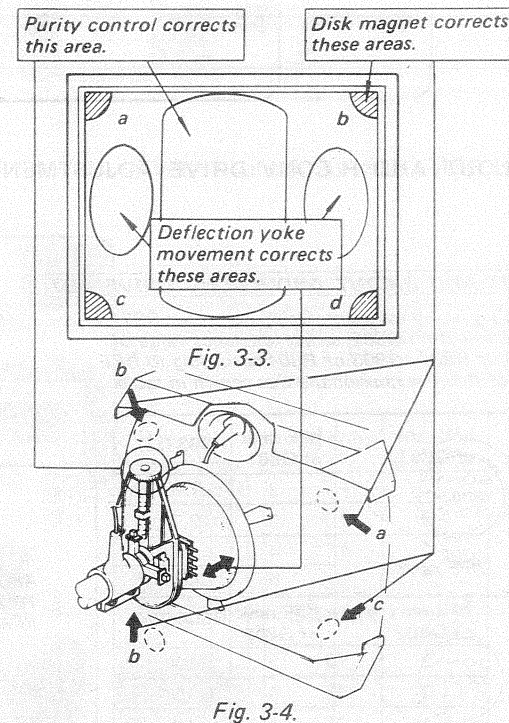

Fig. 3-3.
10. Check if mislanding appears at corners a ~ d as shown in Fig. 3-3. If mislanding is observed, correct it as shown in Fig. 3-4.